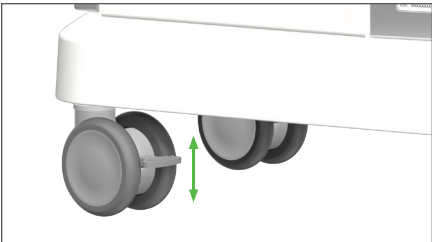

Figure 7: 4-locking breaks, press down to lock, lift up to release
- To lock the caster, depress the brake lever located at the front of the caster until it clicks. (Figure 7)